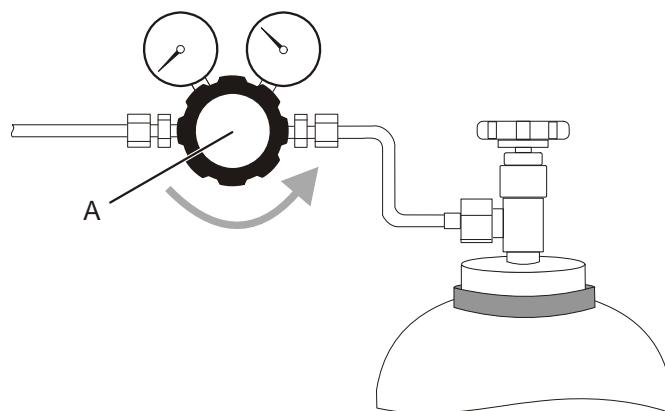

Figure 58: Closing pressure regulator
1. Turn the valve on the pressure regulator (see Figure 58, A) of the first gas line counter-clockwise to its stop to ensure that the pressure regulator is closed.